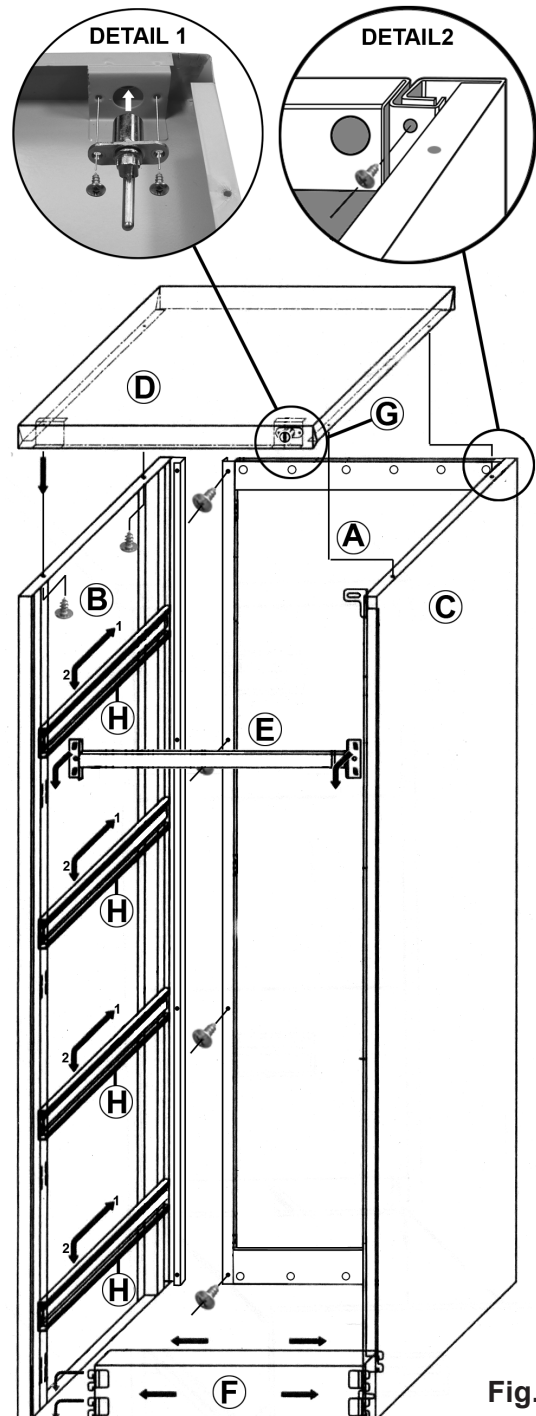

Fig.1
3.2 ATTACH DRAWER RUNNERS TO CABINET SIDES (Fig.1)
3.3 ATTACH LOCK TO CABINET TOP (D) (Fig.1)
- 3.3.1 Referring to DETAIL 1 in fig.1 insert the lock from the inside of the front edge and fix it in place with two self tapping screws. (Ø9mm)
- 3.4.1 Referring to DETAIL 2 in fig.1, interlock the back edge of side panel (C) with the right hand edge of the back panel (A) and screw the two panels together using four self tapping screws provided (Ø11mm). Attach side panel (B) to the left hand side of the back panel (A) in the same manner using four self tapping screws (Ø11mm).
3.5.1 Referring to fig.1, open the two side panels (B) and (C) just enough to introduce the lower front cross piece (F) at the bottom, front edge of the side panels. Allow the hooks at either end of the lower front cross piece to enter the slots in the inside edges of the side panels. Close the side panels onto the cross piece and then firmly push down on the cross piece to lock it in place.
3.6.1 Referring to fig.1 place the top panel (D) onto the assembled side and back panels. When placing the panel first ensure that the locking pin on the back of the lock enters the hole in the upstanding lock tab at the front of the right hand side panel. The panel will now be self aligning. Ensure that the channel on the inside of the back edge sits on the top edge of the back panel and the front corners of the top panel lap over the front corners of each side panel. Use four self tapping screws (Ø11mm) in the positions indicated to fix the top panel in position.